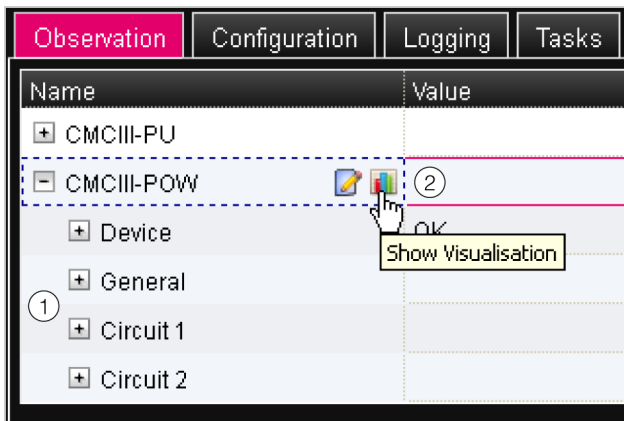

Fig. 13: Tree view
If, after selecting the "CMCIII-POW" level, the lower-level "Device", "General", etc. entries are displayed (fig. 13, item 1), switch to the graphical display as follows:
- Click the coloured "graph" symbol after the "CMCIII-POW" entry, which resembles a stylised bar graph (fig. 13, item 2).
The display changes to the tree view (fig. 13) and you can access the specific individual settings.